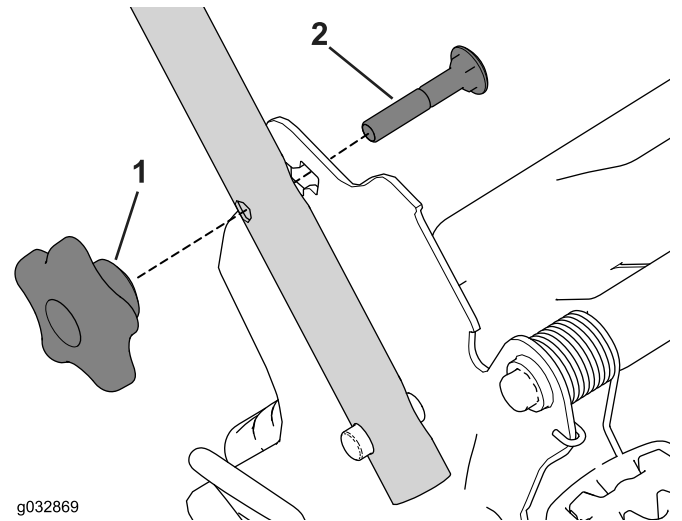

Figure 7
4. Insert the carriage bolt (with the bolt head toward the inside) through the upper or lower square hole in handle bracket and the upper hole in the handle end (Figure 7).